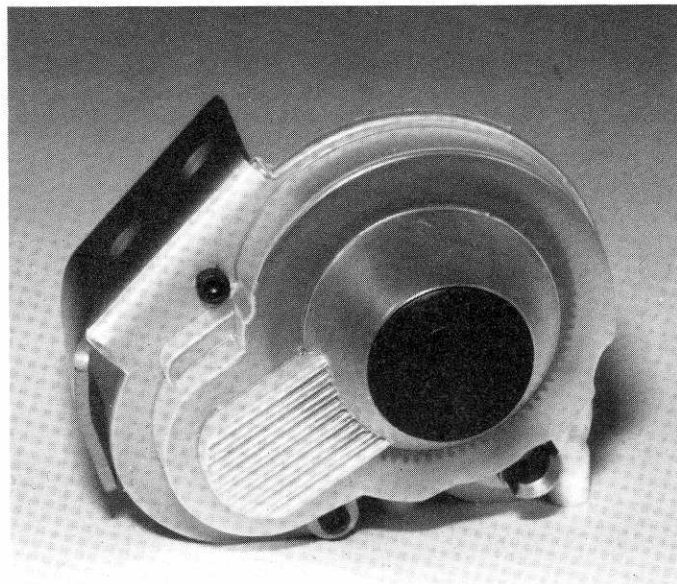

Fig. 70
□ **Fig. 70** Make sure you put the button back in to keep dirt out.